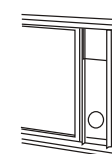

Fig.12
4. Slide window close against the kit. Fig.12